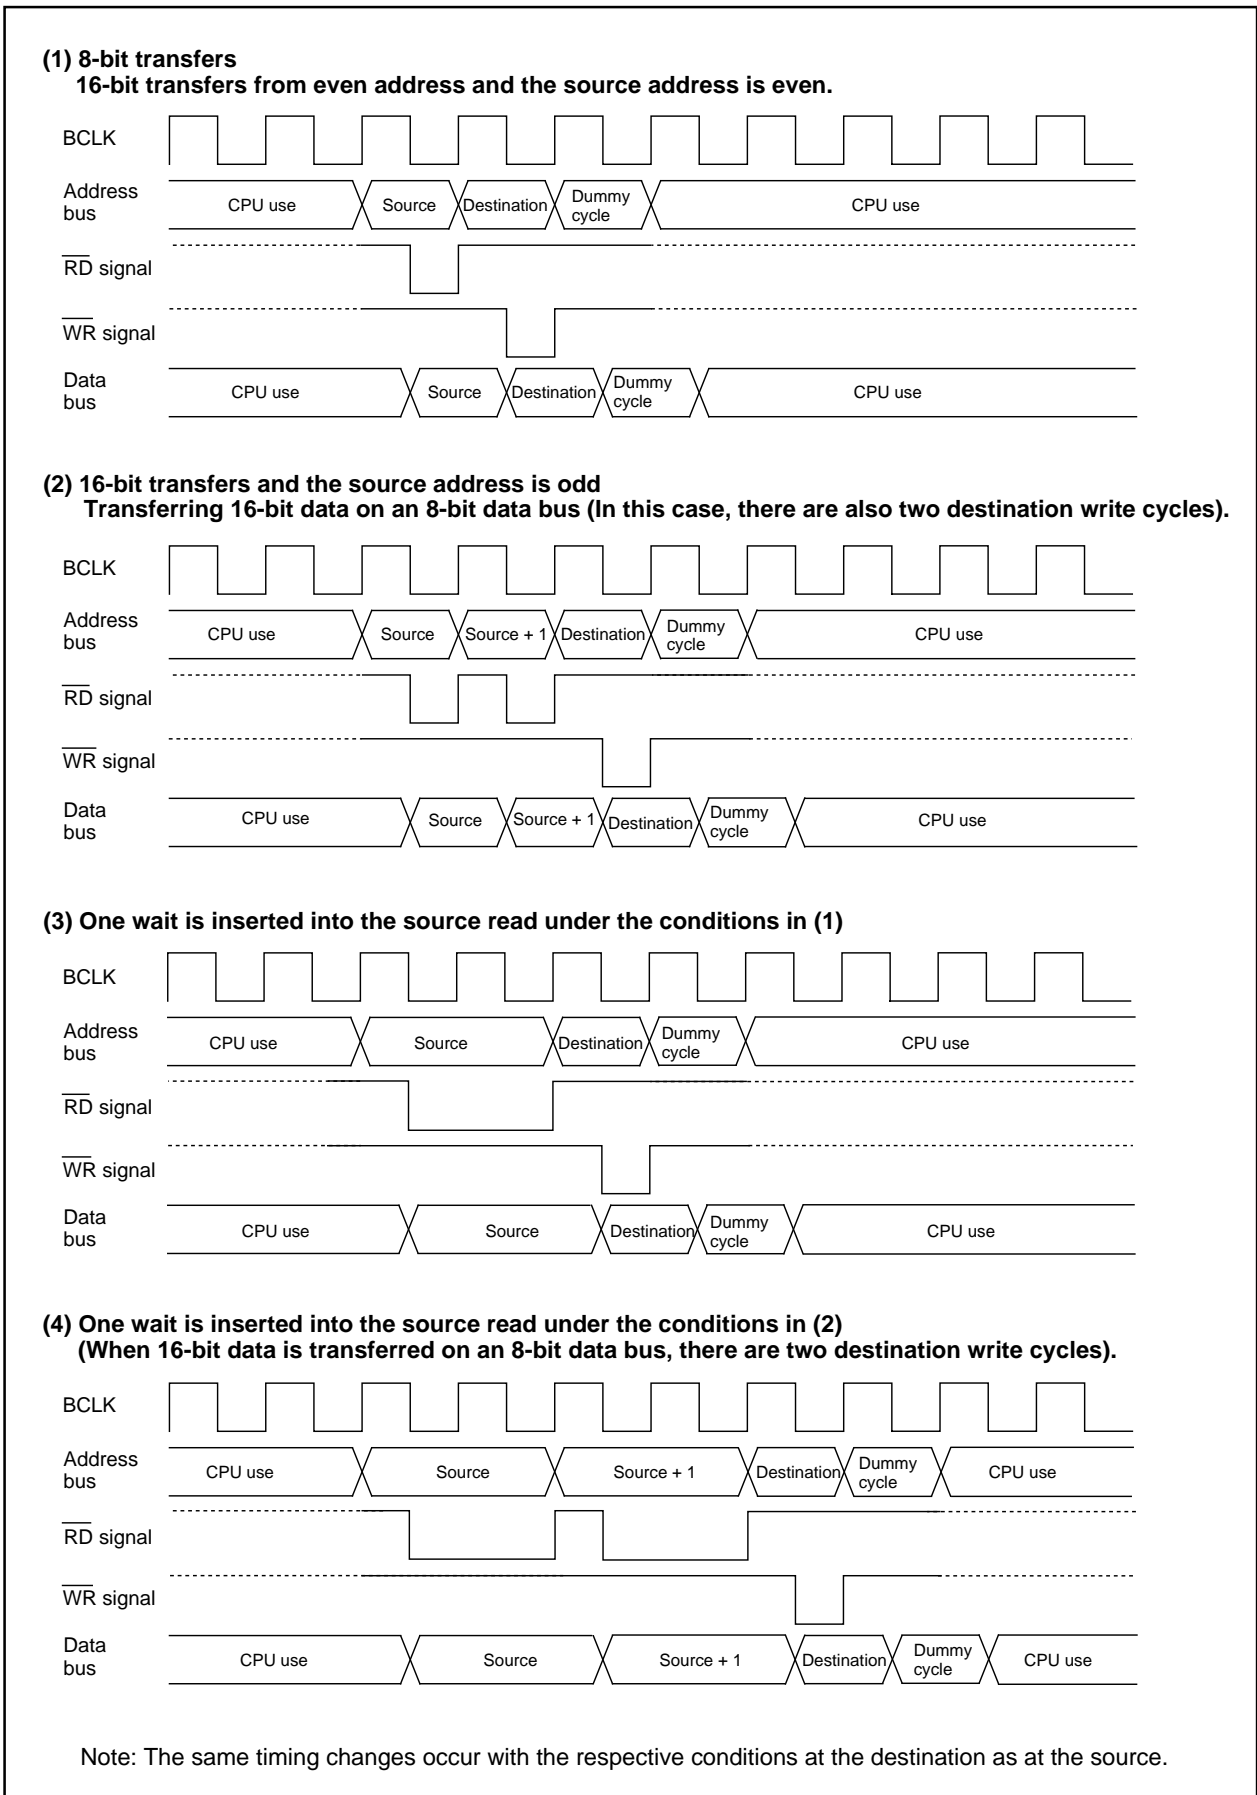

Figure 1.12.5. Example of the transfer cycles for a source read
Figure 1.12.5 shows the example of the transfer cycles for a source read. For convenience, the destination write cycle is shown as one cycle and the source read cycles for the different conditions are shown. In reality, the destination write cycle is subject to the same conditions as the source read cycle, with the transfer cycle changing accordingly. When calculating the transfer cycle, remember to apply the respective conditions to both the destination write cycle and the source read cycle. For example (2) in Figure 1.12.5, if data is being transferred in 16-bit units on an 8-bit bus, two bus cycles are required for both the source read cycle and the destination write cycle.